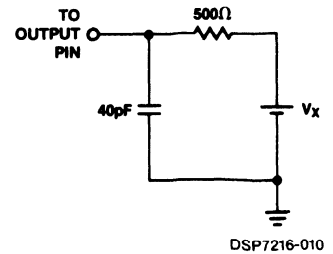

Figure 2. Output Three State Delay Load (Vx = 0V or 2.6V)
2. Transition is measured  $\pm 500mV$  from steady state voltage with loading specified in Fig. 2.